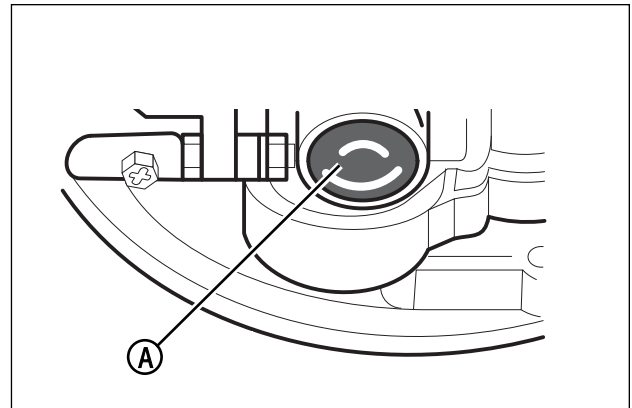

Figure 18: The engine primer button
5. The primer button (A, Figure 18) is on the side of the engine. Push the primer button. Every time you push the primer button, wait two seconds. For the number of times required to push the primer button, see the engine manufacturer's instructions.